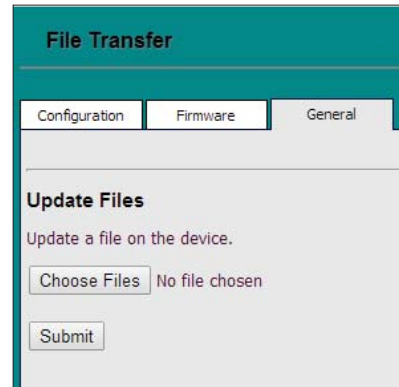

Figure 15: File Transfer - General Tab
- 4.) Refer to the *File Transfer Window* below (**Figure 15**). In the *General Tab*, click <Browse> and locate the file you saved in Step 1. Then click on <Submit>. When the download is complete, click on the <System Restart> button.